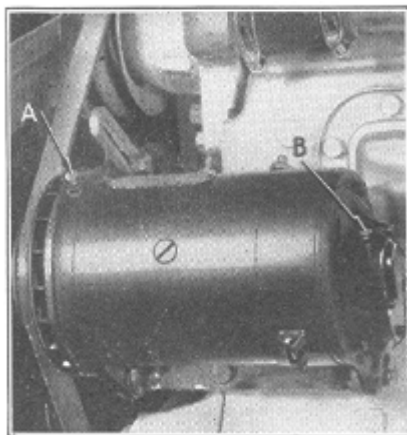

Figure 22
The generators used on all models are of the fully ventilated, high output type with third brush adjustment and voltage regulation. The generator is driven from the crankshaft through a "V" type, adjustable fan belt which also operates the water pump. See Fig. 22.
LUBRICATION—The front and rear armature bearings should be lubricated ever 2,000 miles by applying a few drops of light engine oil to oilers (A) and (B), Fig. 22. *Avoid over-oiling.*